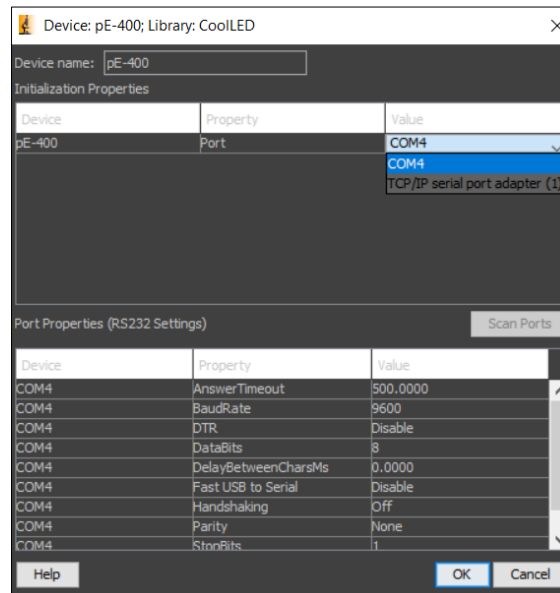

Figure 6: Selecting the COM port
7. The parameters listed in 'Port Properties' (Figure 6) default to working parameters and can be ignored, although BaudRate can be changed to 576000. It is possible to alter these later if required. Then click 'OK'.